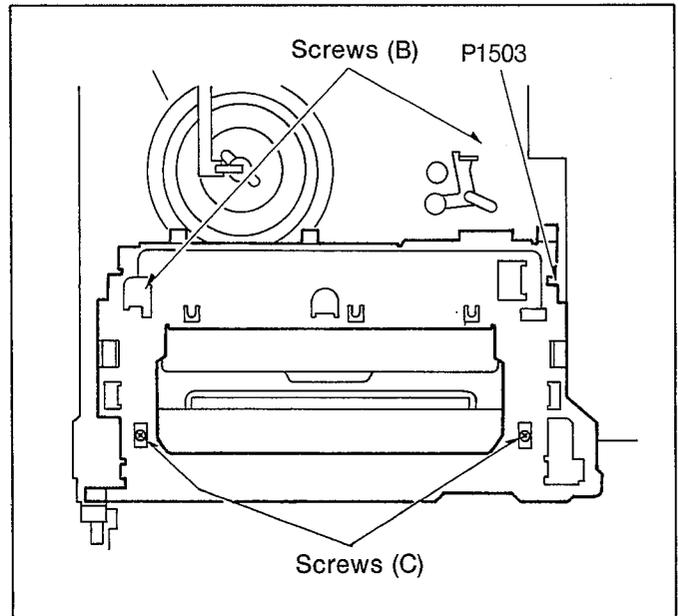

Fig. A17
7. Reinstall the top plate and tighten the 2 screws (A), then tighten the 4 screws (B) and (C) as shown in Fig.A17. Re-connect the flexible cable to P1503.